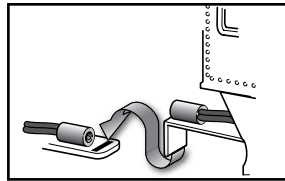

Figure 1. Drawbar connection
2. Place your locomotive and tender on the track and connect the drawbar as shown in Figure 1.
- 2. Place your locomotive and tender on the track and connect the drawbar as shown in Figure 1 on page 6.**
1. **With track power off, place your locomotive and tender on the track. Connect the drawbar as shown in Figure 1 on page 6.**